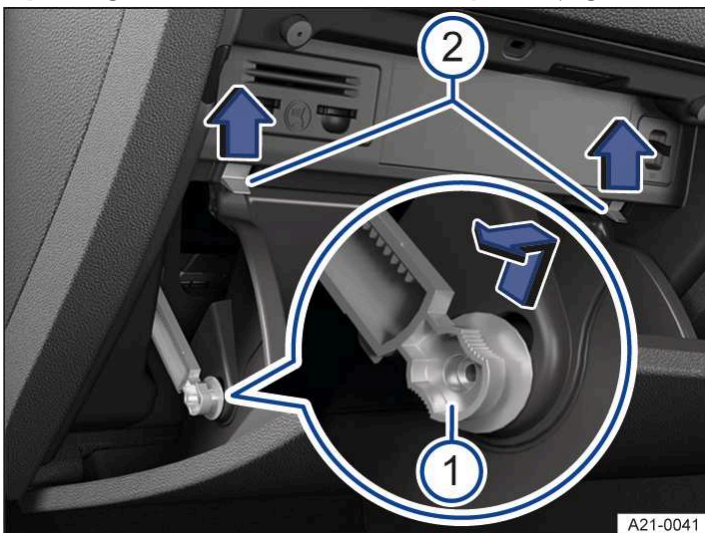

Fig. 2 In the dash panel on the front passenger side: fuse box cover in the dash panel (right-hand drive vehicle)
2. Push restrictor upwards into the opening of the holder and pull out to the side in the direction of the arrow → Fig. 2 (1).
3. Press the stop pin in the direction of the arrow and at the same time open the glove box further → Fig. 2 (2).
2. Insert the restrictor into the opening in the holder and slide upwards in the opposite direction to the arrow until it engages → Fig. 2 (1).
3. Carefully push the glove box forwards past the resistance of the catches → Fig. 2 (2).